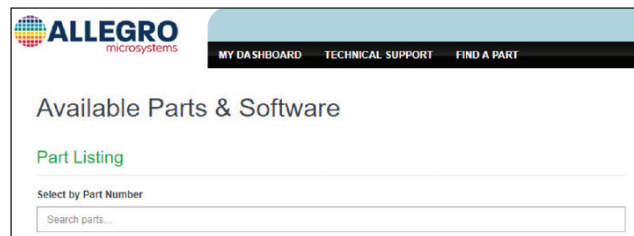

Figure 4: Select by Part Number on the Available Parts and Software Page
5. In the select by part number search bar (see Figure 4), search for ACS70311